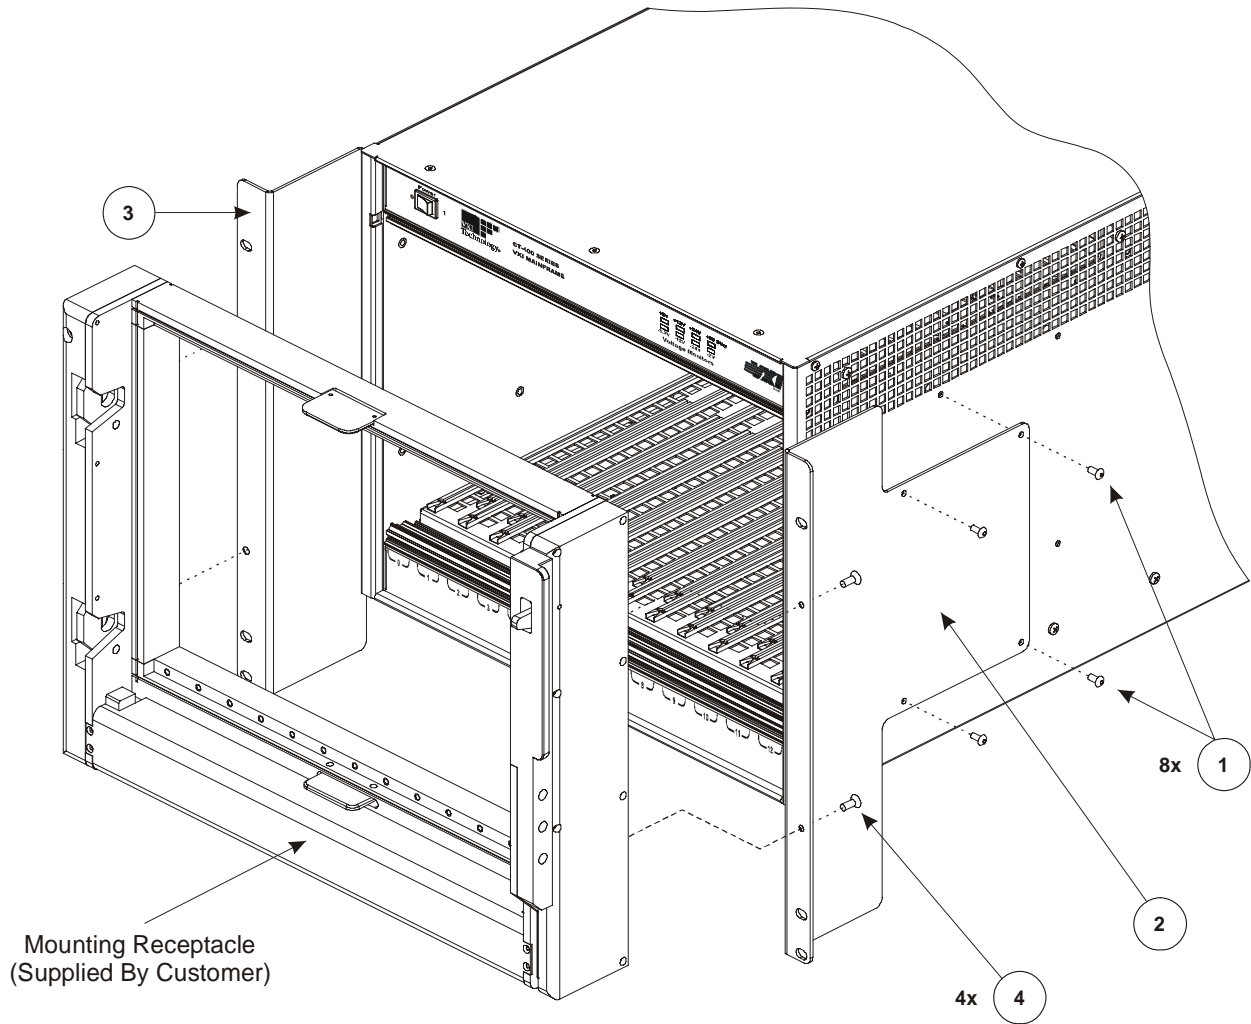

FIGURE 2-4: VXIPLUG&PLAY RACK MOUNT INSTALLATION DIAGRAM
- 2) Locate the right and left side rack mount brackets. Install the rack mount brackets using eight 8-32 x 5/8" button head Torx screws. Refer to Figure 2-4 for guidance. The VXI*plug&play* mounting holes must be aligned where all three mounting holes are directly over the holes on the vertical rails of the rack. In addition, the VXI*plug&play* mounting flanges should cover exactly nine full EIA rack units.